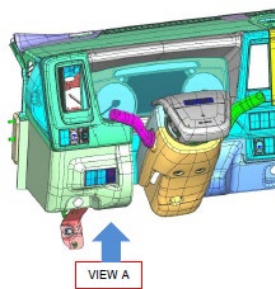

Figure 51
52. Remove one screw and clip from the lower instrument panel cover to the left of the steering wheel. (See Figure 51.) Pull down the lower instrument panel cover and disconnect all connectors. (See Figure 52.)
62. Reinstall the lower instrument panel cover by reconnecting the connector, engaging three (3) retaining tabs and installing the clip and screw. (See Figures 51 and 52.)